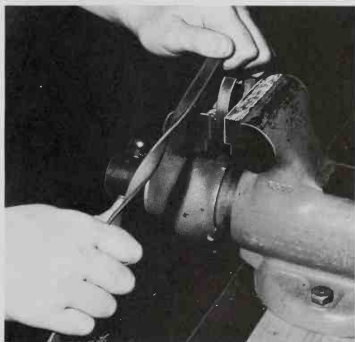

Fig. 4-70. Straightening scroll so it will lie flat.
5. When the scroll has been completely formed, check it to see if it will lie flat. If the scroll needs to be straightened, place it in a vise edgewise and straighten it by hand, Fig. 4-70.